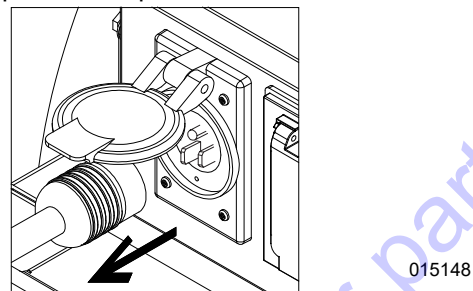

Figure 3-47. Utility Cord Removal from Unit
- See **Figure 3-47**. Remove 120 V, NEMA 5-15 cord from unit power inlet port.